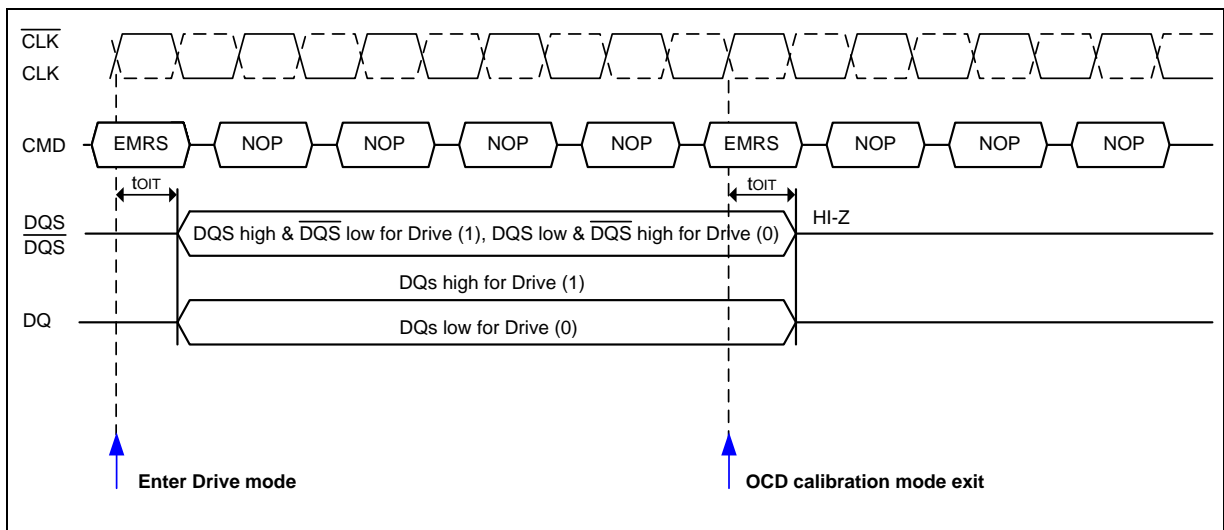

Figure 8 – OCD Drive Mode
Drive mode, both Drive (1) and Drive (0), is used for controllers to measure DDR2 SDRAM Driver impedance. In this mode, all outputs are driven out toIT after “enter drive mode” command and all output drivers are turned-off toIT after “OCD calibration mode exit” command as shown in Figure 8.